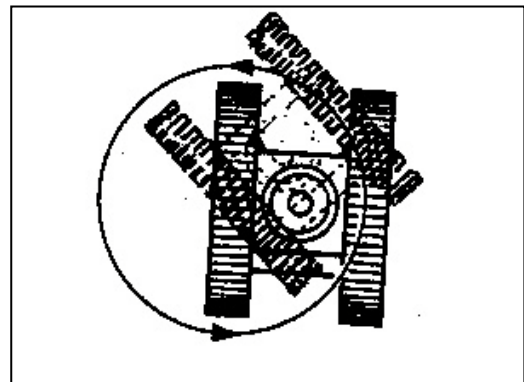

FIG.3-14
- Turn Right (FIG.3-14): Pull right handle 2 backward and push left handle 1 forward.